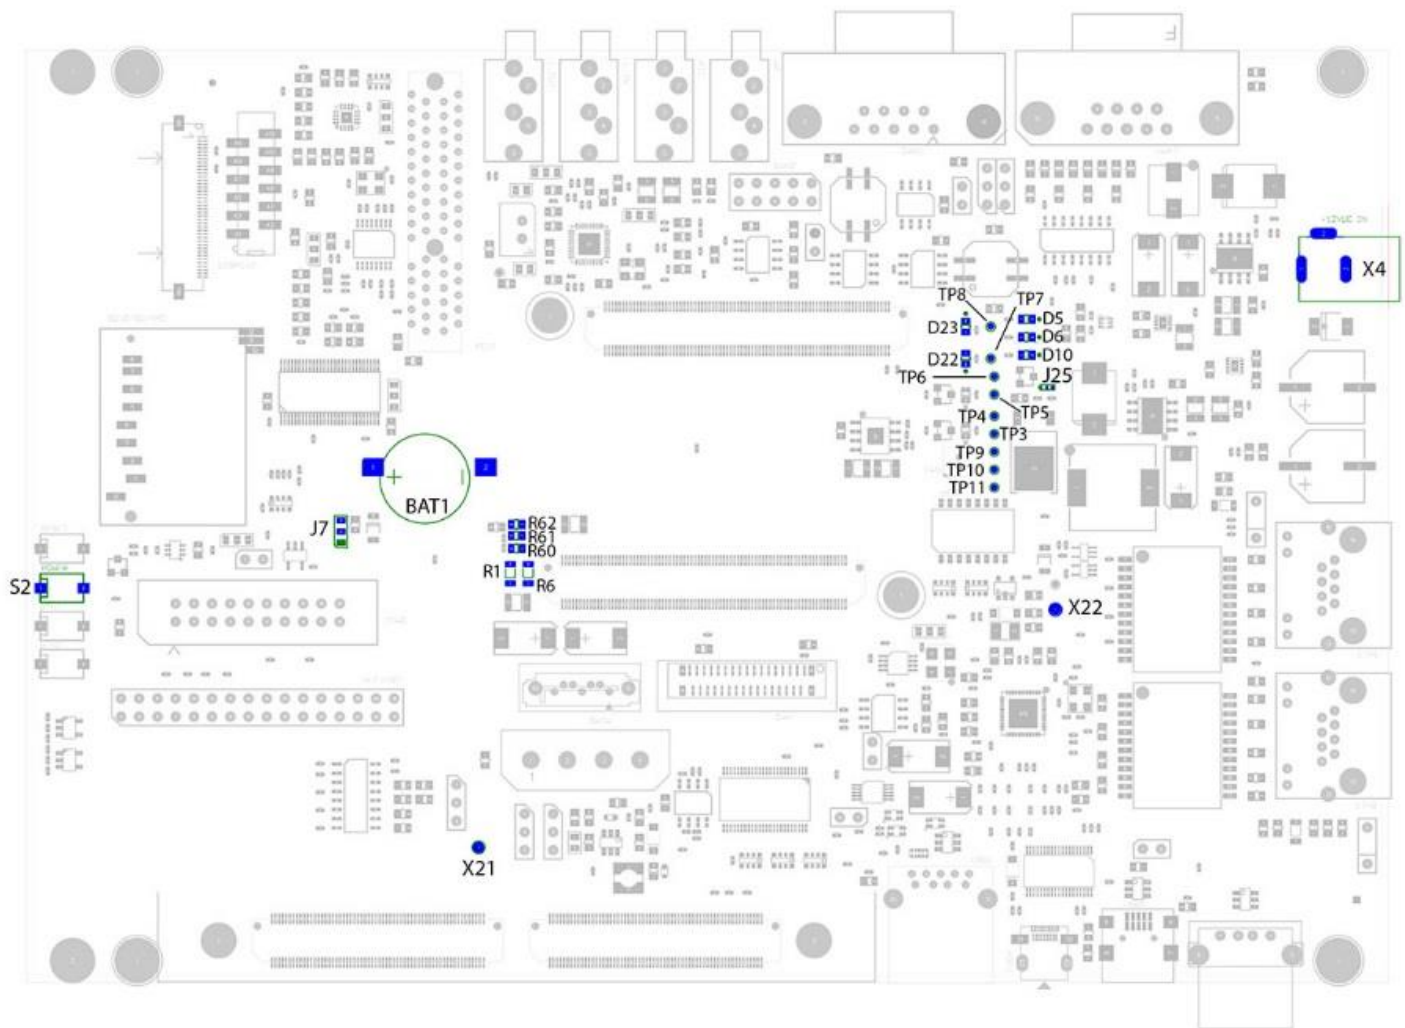

Figure 12. Power Scheme
The power supply rails can be measured through several test pads (TP) present on the Carrier Board as shown in Figure 12. These test pads are described in detail in Table 22.
The Carrier Board provides 5 status LEDs for the main power supply rails: D5, D6, D10, D22, and D23. The location of these LEDs on the carrier board is shown in Figure 12. The LEDs will turn on when their respective power supply rails are powered on. The power supplies these LEDs represent are shown in Table 23.